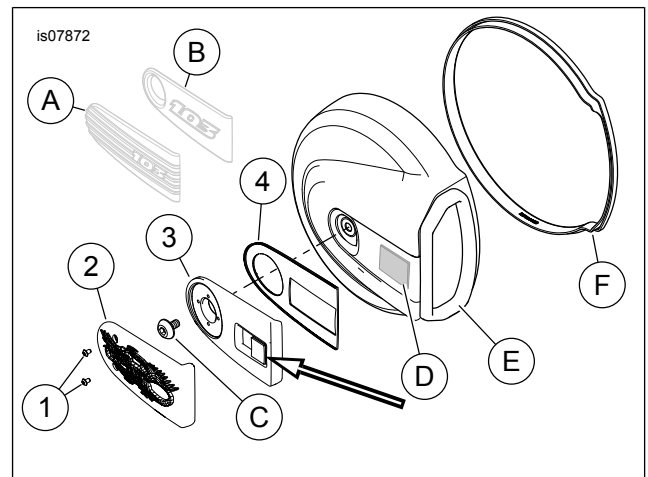

Figure 1. Service Parts: Air Cleaner Trim Kit
See Figure 1 and Table 1.
- See Figure 1. Remove original equipment (OE) insert (A or B) from the air cleaner cover.
- Remove screw (C). Air cleaner cover and gasket do not require removal.
- See Figure 1. Thoroughly clean area (D) with a 50:50 mix of rubbing alcohol and water. Allow to dry completely.
- Visually align trim plate (3) with cover and press firmly in fastener area (D) to secure. Hold for 30 seconds.